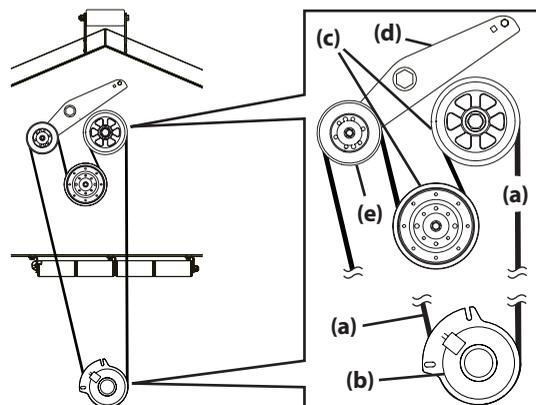

Figure 38
1. Remove the PTO belt (a) from the deck as instructed in STEPS 1 - 3 in the Deck Removal section then remove it from around the PTO clutch (b) (Figure 38).
2. Route the PTO belt (a) (Figure 38).